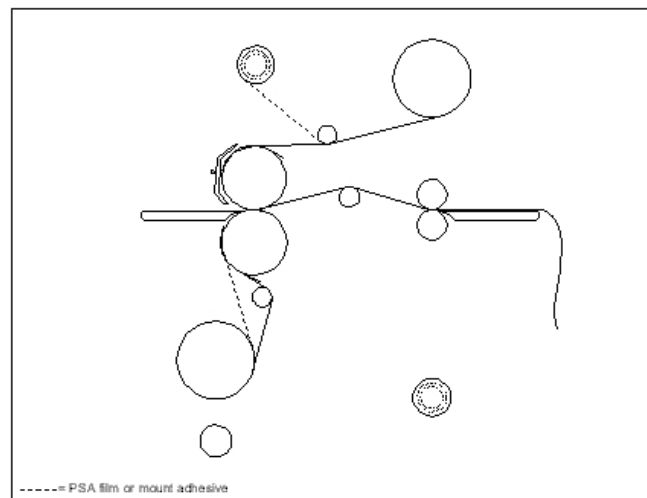

Fig 31
6. Tack the new film to the existing film on the heat rollers. For PSA film, attach the release liner to the rewind tube (Figure 31).